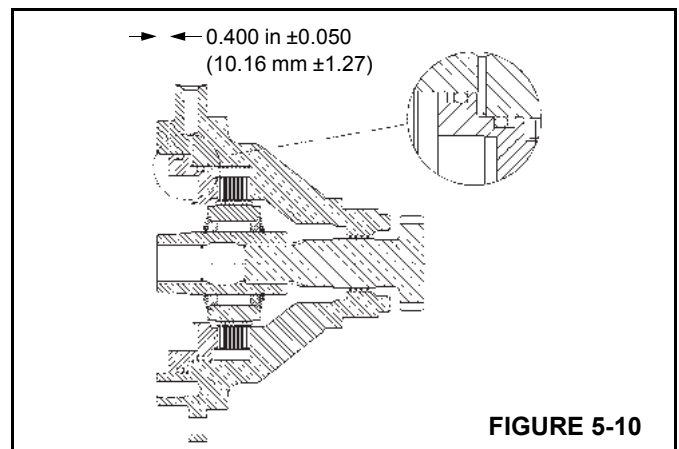

FIGURE 5-10
14. After installation, check the brake stack-up to make sure that the dimensions are within the tolerance shown in Figure 5-10. If your measurement is greater than shown, either some friction discs and stator plates have been left out, or the friction discs are worn beyond acceptable tolerances. If your measurement is less than shown, too many plates or discs have been inserted or they are not seated properly.
15. Coat the new O-rings and backup rings (Items 7-3, 7-7, 7-8, and 7-9) with light oil and install onto the piston (Item 10). See Figure 5-10 for proper O-ring/backup ring installation.